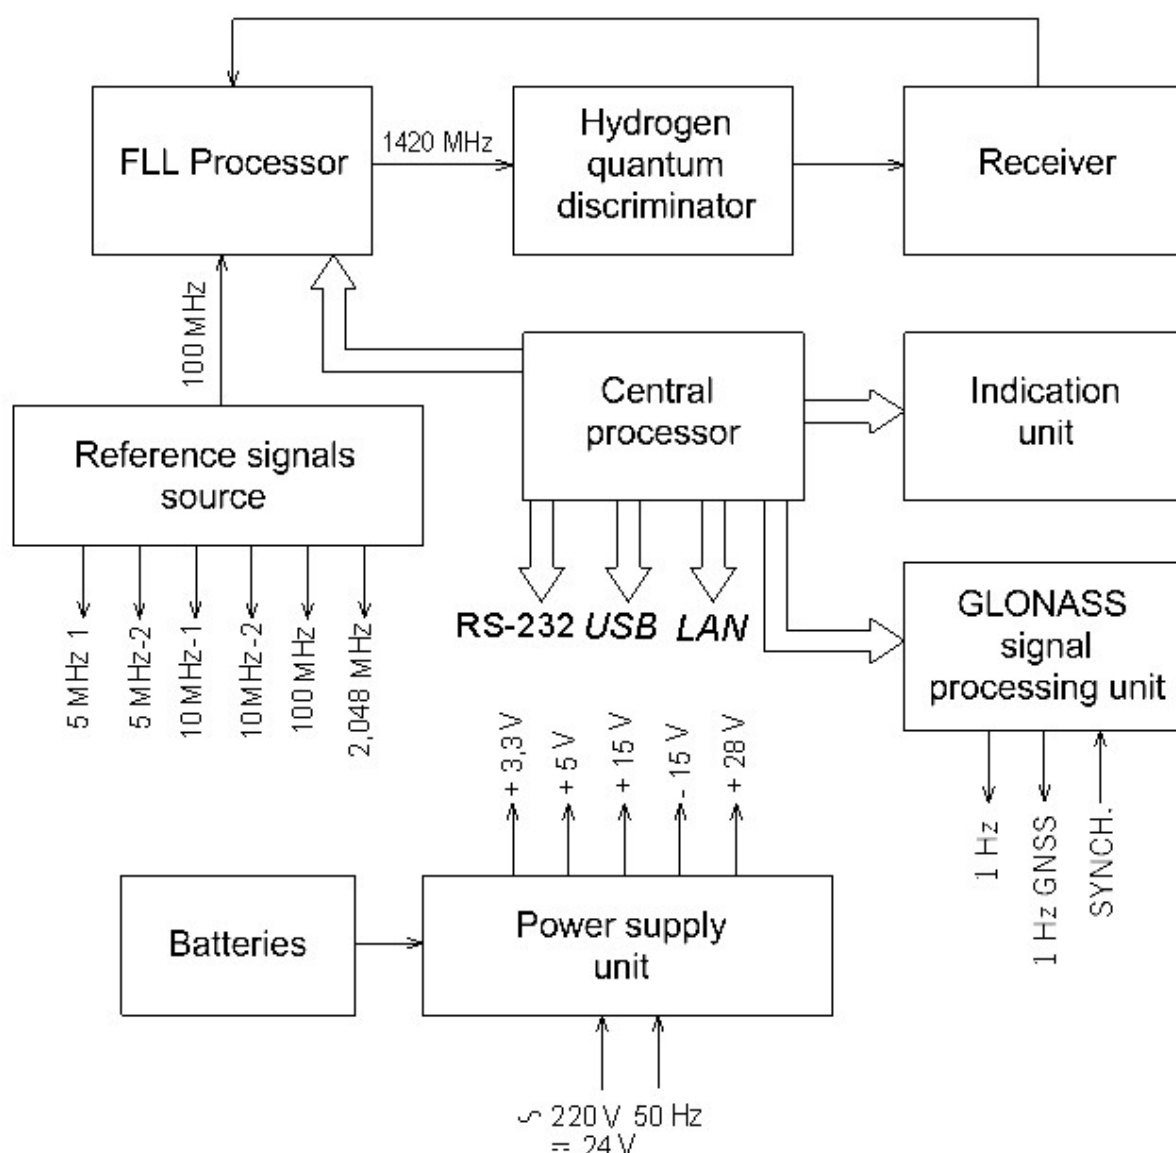

Fig.1.2. VCH-1008M block-diagram
1.1.4.2 Hydrogen frequency and time standard VCH-1008M is a hydrogen standard of passive type. The principle of operation of the device is illustrated by the block-diagram in the Fig. 1.2.